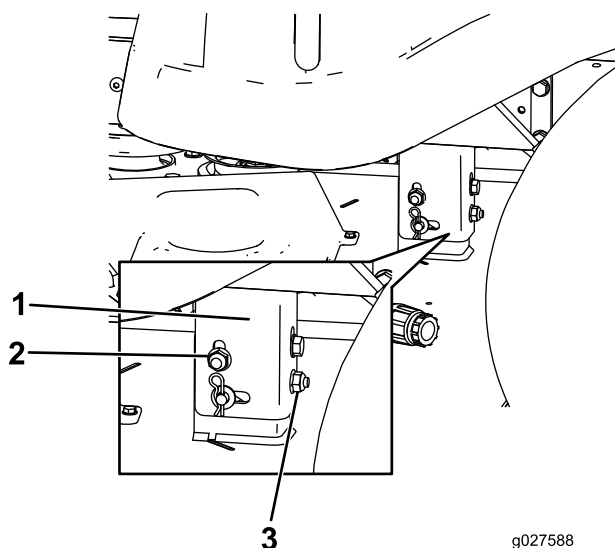

**Figure 54**
4. Carefully rotate the blades so that they are all side to side (Figure 54).
5. Measure between the outside cutting edges and the flat surface (Figure 54). If both measurements are not within 3/16 inch (5 mm), an adjustment is required; continue with this procedure.